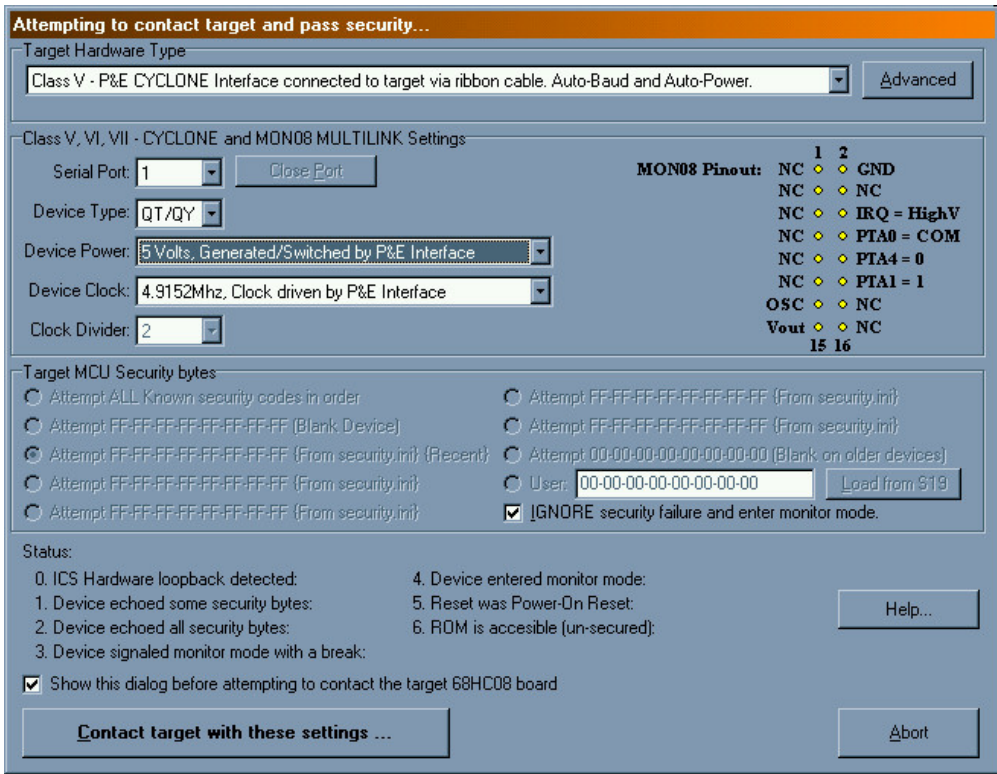

Figure 1-20. Attempting to Contact Target Window
22. If the Attempting to contact target window (see Figure 1-20) does not appear, from the PEDebug pulldown menu select Device: HC908QY4. (Device: -> 68HC08 -> QT/QY Family -> HC908QY4).